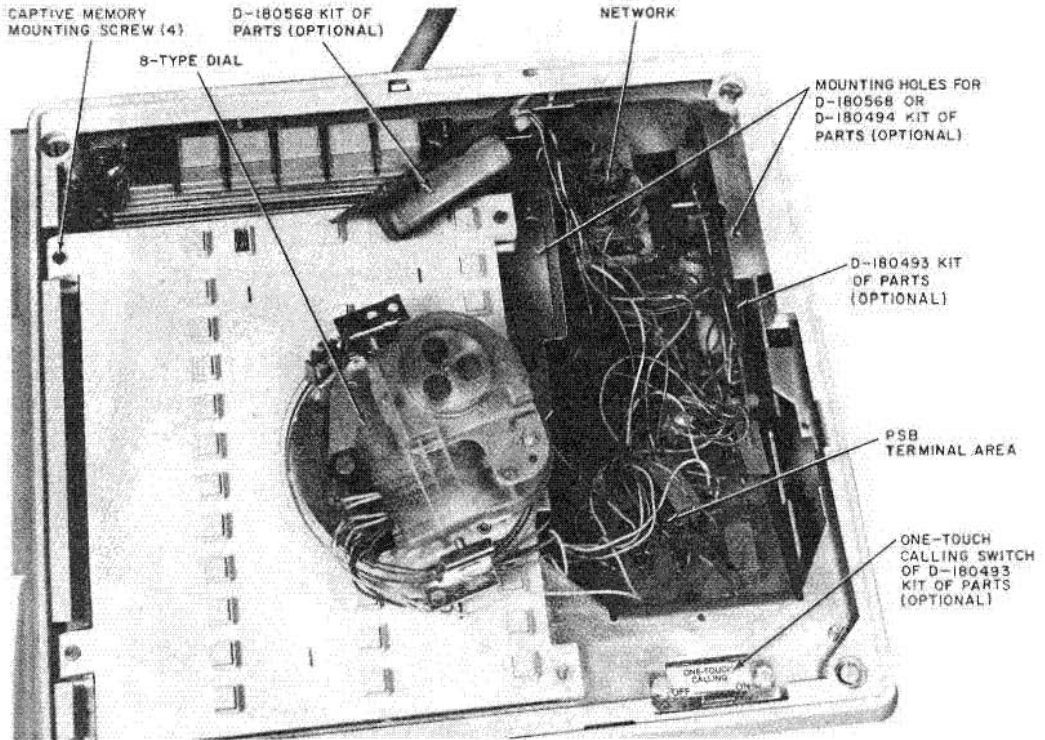

Fig. 4—872A1M Telephone Set—Dial Removed To Show Terminal Area
- (b) Under the faceplate, inside the set (Fig. 4 and 5):
- Power supply board (PSB) terminal area (Fig. 4)
- Network (Fig. 4)
- Options (Fig. 4):